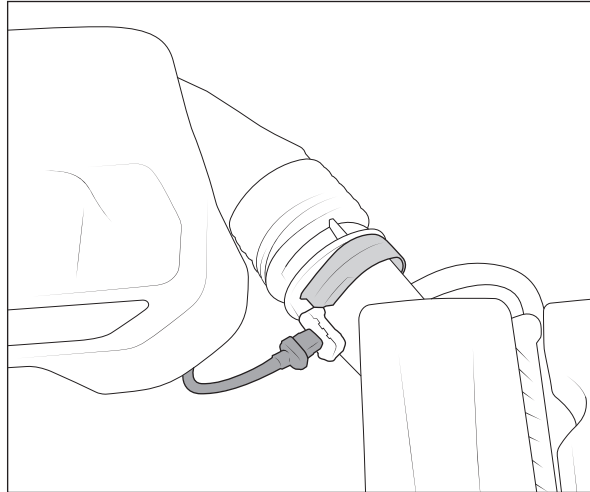

Figure 5
- A. Remove the sensor from the airbox lid. Unclip the plastic retainer holding rubber boot to airbox lid and pull off the rubber boot (fig. 5).